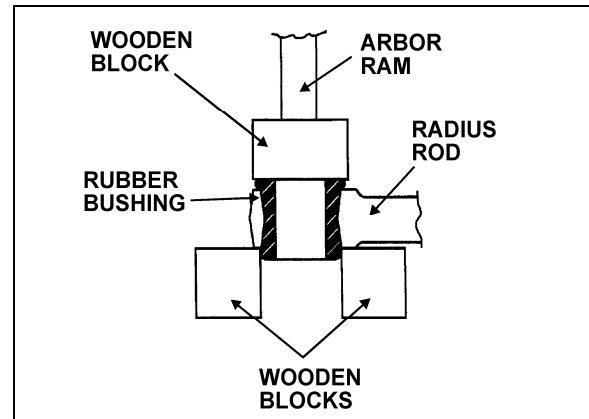

FIGURE 8: RADIUS ROD BUSHING INSTALLATION 16012
2. Safely support the radius rod, and place new bushing on top of the radius rod end (Fig. 8).